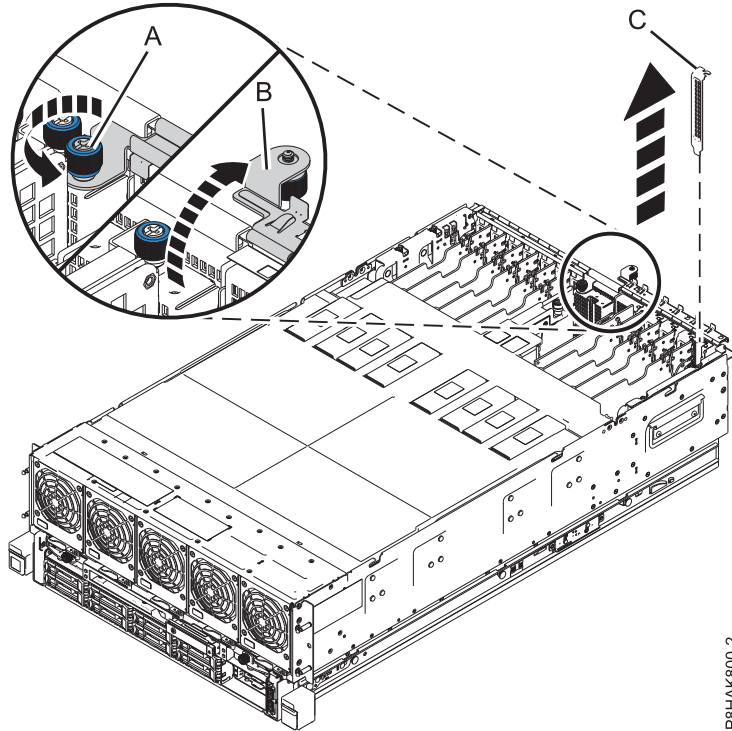

Figure 11. Removing a filler from a PCIe adapter slot in the 8408-44E or 8408-E8E system
- a. Unscrew the captive thumbscrew of the I/O retention bracket until fully loose. See (A) in Figure 11 on page 17.
- b. Open the I/O retention bracket by rotating it up and away from the system. See (B) in Figure 11 on page 17.
- c. To remove the filler, carefully grasp the filler (C) by its top edge or tailstock, and remove it from the system. See Figure 11 on page 17.